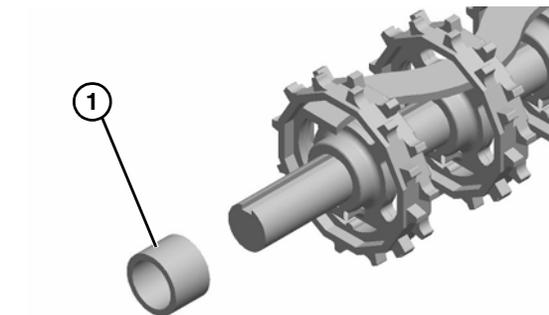

Figure 32
8. Slide off drive sprocket spacer (Figure 32, item 1).